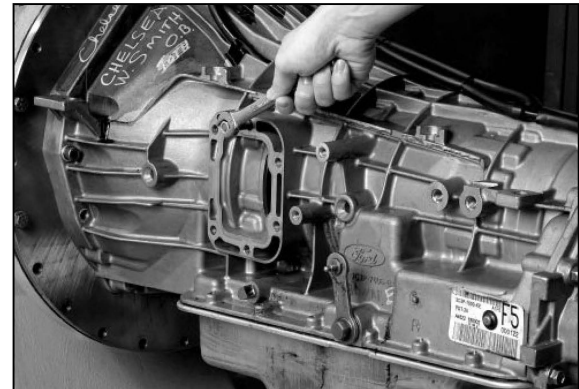

Figure 14
14. Install the one stud from the stud kit (8000-19X) to the top hole on the transmission P.T.O. aperture pad. (**Figure 14**)